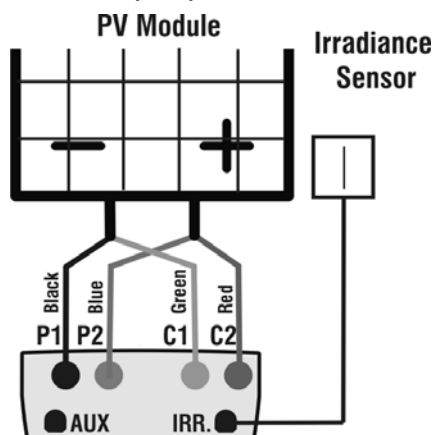

Fig. 12a: Instrument connection to module FV
14. Connect the meter to the module/string under test as shown in Fig.12a In particular, connect the negative output pole of module/string to P1, C1 input terminals and the positive output pole of module/string to P2, C2 input terminals